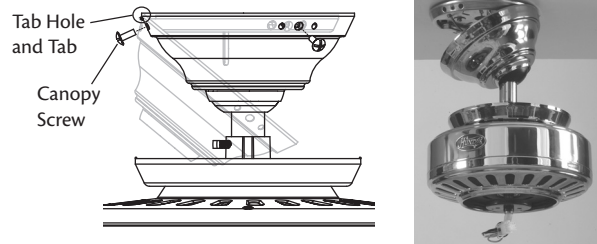

Figure 17 - Installing the canopy
- Hook the tab hole over the tab on the ceiling plate as shown in Figure 17.
- Raise the canopy, be sure the holes in the canopy and the ceiling plate are aligned, and loosely assemble the canopy screws one at a time. When all three screws are assembled, securely tighten all three canopy screws. Refer to Figure 17.